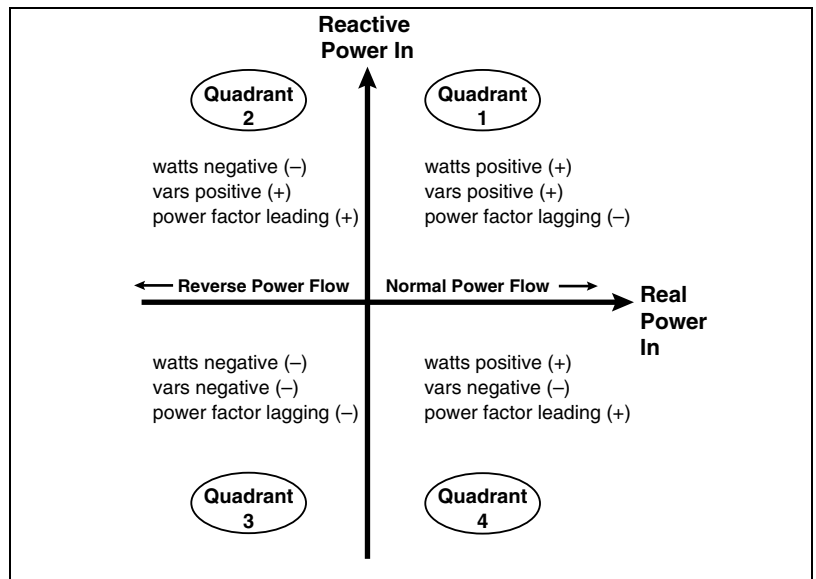

Figure 4–7: Reactive energy accumulates in four quadrants
- **Four-quadrant reactive accumulated energy readings.** The circuit monitor accumulates reactive energy (kVARh) in four quadrants as shown in Figure 4–7. The registers operate in unsigned (absolute) mode in which the circuit monitor accumulates energy as positive.